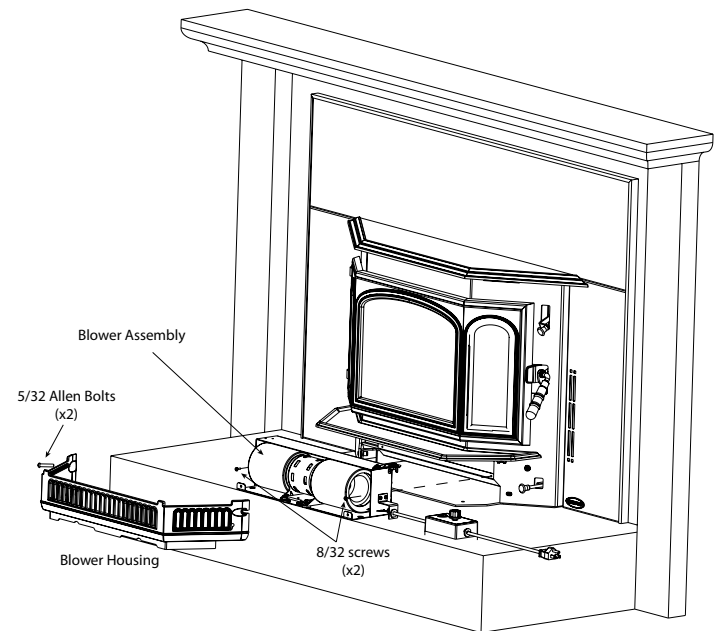

Figure 20.4
2. Remove Blower assembly from appliance by removing two 8/32 phillips head screws located under ashlip (**Figure 20.4**).